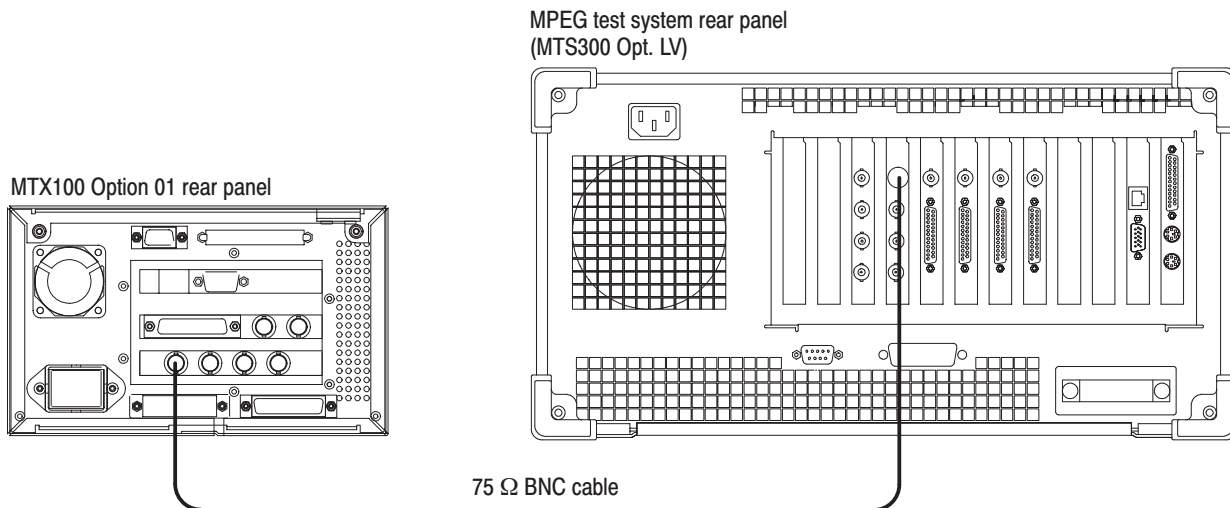

Figure 4-9: Fourth equipment connection for verifying the ASI interface
47. Use the 75 Ω BNC cable to connect the ASI OUT1 connector on the MTX100 Option 01 to the ASI 1 IN connector on the MPEG test system as shown in Figure 4-9.